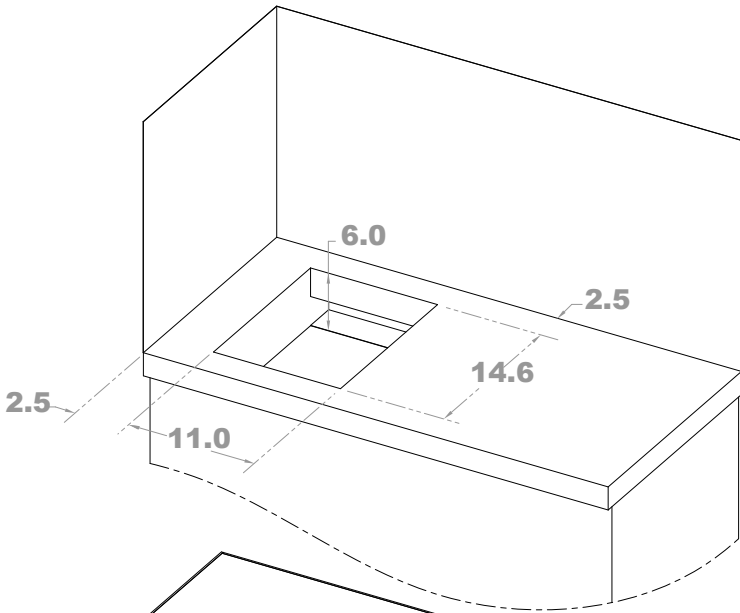

Figure 3A
- a. **Single Induction Cooktop** - (See Figure 3A)